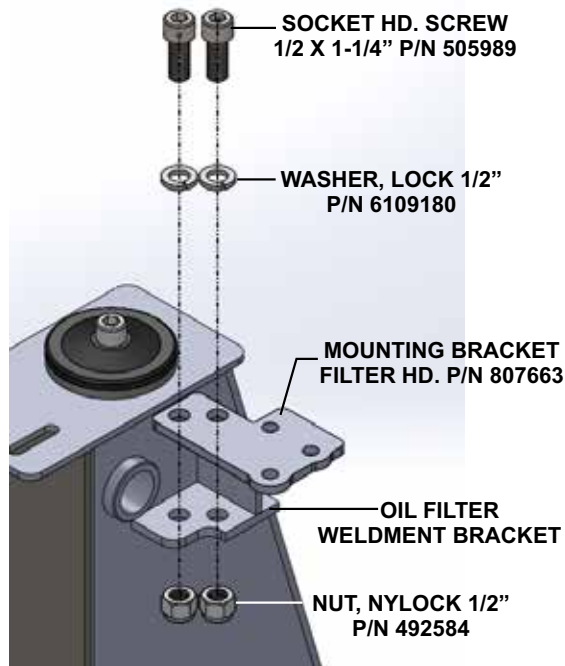

Figure 8. Securing Oil Filter Mounting Bracket
1. Using an 3/8-inch allen wrench, secure the new hydraulic oil filter mounting bracket P/N 807663 to the weldment bracket as shown in Figure 8.